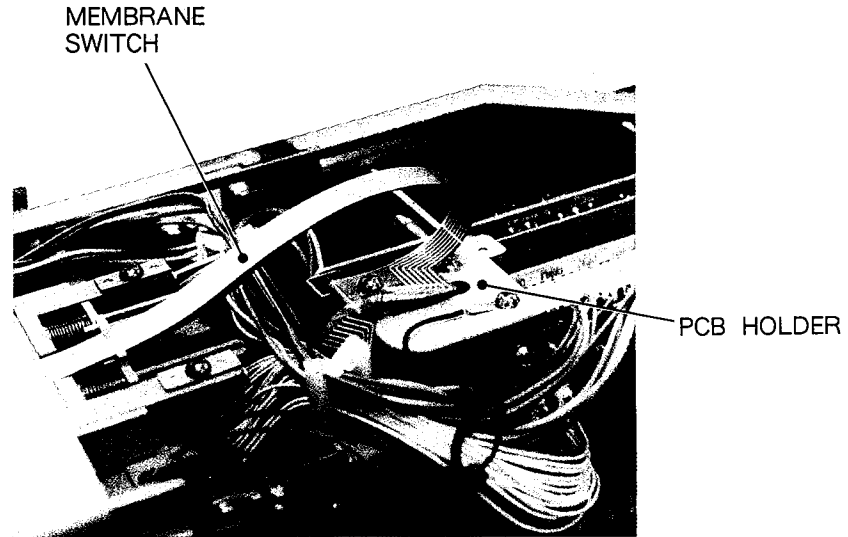

Fig. 3
4. Remove the MEMBRANE SWITCH attaching screw connected to the PCB HOLDER. (Fig. 3)
5. Remove the earth wire connected to the PCB HOLDER. (Fig. 3)
2. Remove the PCB HOLDER. (Fig. 3)